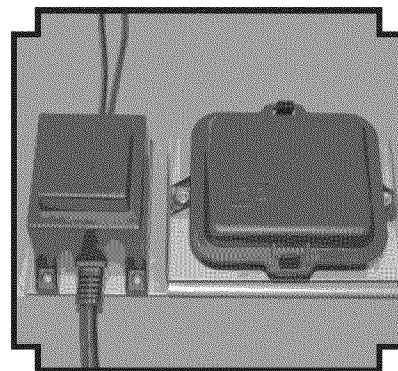

Figure 7-2 - Locating battery compartment.
- 1) Locate the battery compartment. On free standing models this is located inside the grill cart on back left. (For 42" free standing models you will need to remove both storage drawers). For built-in models it is located under the unit where the installer has mounted the battery and transformer bracket. (See figure 7-2)